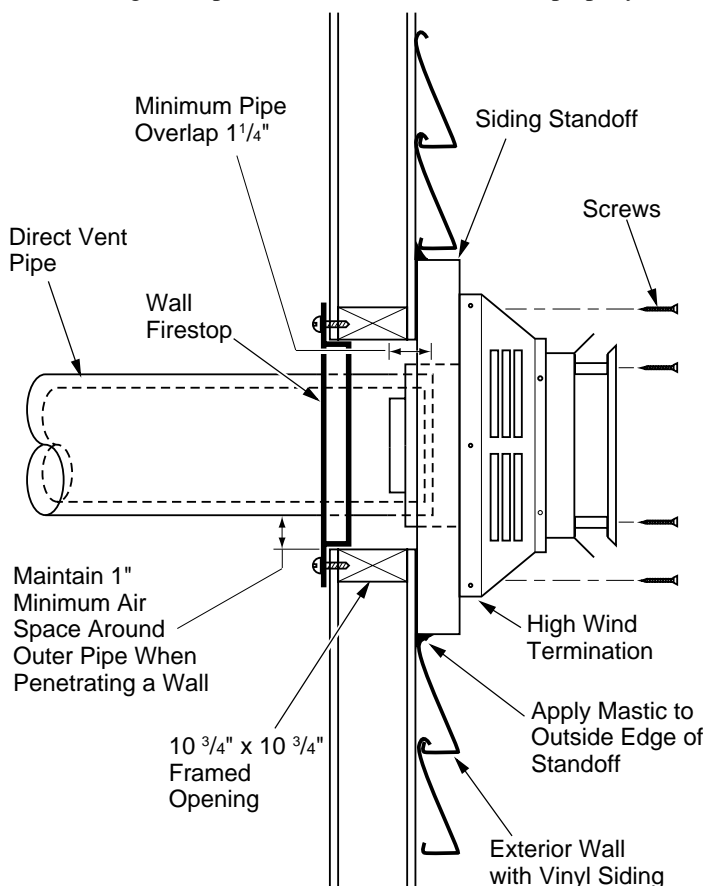

Figure 13 - Typical Horizontal Termination Cap Mounting with Additional Siding Standoff Installed
9. Slide wall firestop against interior wall surface and attach with screws provided. See Figure 13 for horizontal termination details.